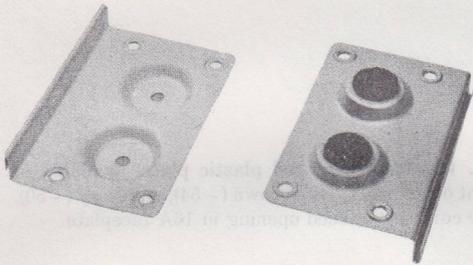
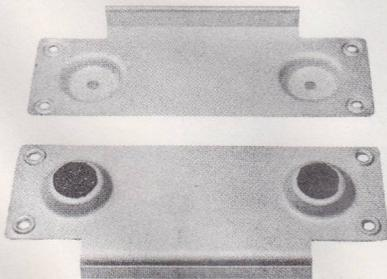
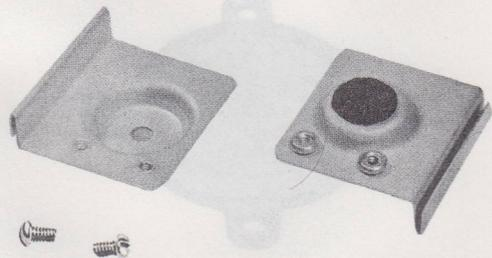

Fig. 1 - 75A Bracket, Top and Bottom Views
Fig. 2 - 76A Bracket, Top and Bottom Views
Fig. 3 - 77A Bracket, Top and Bottom Views
2.02 The 75A bracket (Fig. 1) holds the 549A (4-button) key. The 76A bracket (Fig. 2) holds the 549C (8-button) key. The 77A bracket (Fig. 3) holds the 551A (1-button) key.